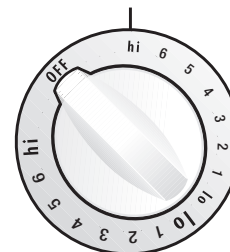
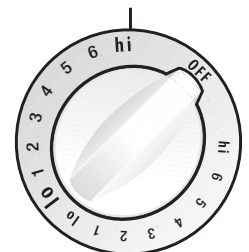

Figure 2
Figure 3
Some models have 1, 2, 3 or 4 Dual Radiant Surface Elements. Heat power levels are adjusted by a special control knob that has a dual set of graduations; for small utensils use the small graduations (Figure 2); the inner surface only will be heating (Figure 4). For larger utensil use the larger graduations (Figure 3); the whole surface will be heating (Figure 5).
2. Push in and turn the control knob counterclockwise (See Figure 2) for smaller cookware or clockwise (See Figure 3) for larger cookware.
Note: See Figure 2 on page 5 for recommended control settings.